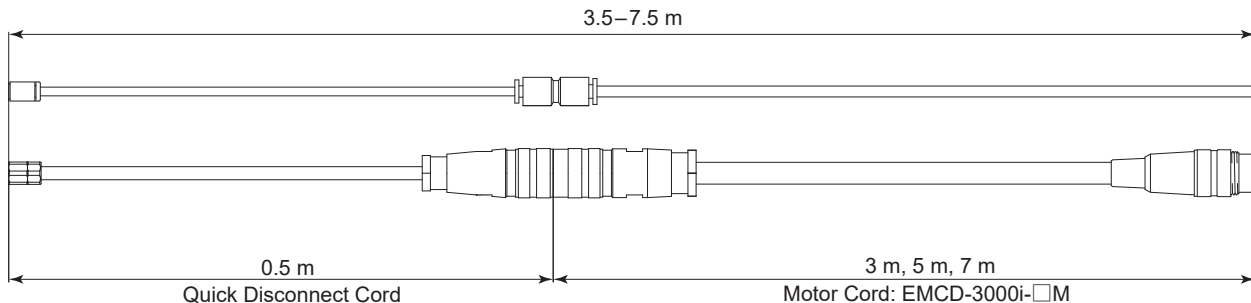

Fig. 18
- **"Hose Length" is the total length, consisting of the hose for the quick disconnect cord and the hose for the motor cord. Refer to Fig. 18 and Table 3 to set the air supply pressure that corresponds to the hose length.**
*Note 4: "Hose Length" indicates total hose length consisting of the Quick Disconnect Hose and the Motor Cord Hose. See Fig.18 to see how to calculate "Hose Length".